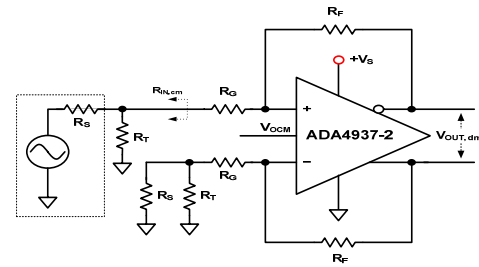

Figure 49. ADA4937-2 Configured for Unbalanced (Single-Ended) Input
For an unbalanced, single-ended input signal (see Figure 49), the input impedance is
**Table 10. Single-Ended Ground-Referenced Input, DC-Coupled,  $R_S = 50 \Omega$ ; See Figure 49**